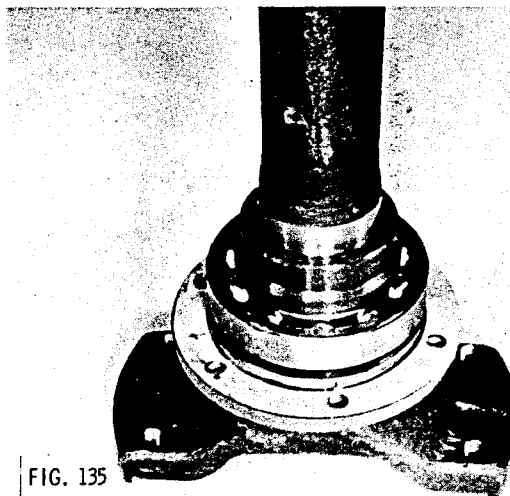

FIG. 135
2. Assemble bearing retainer and seal on shaft. Press bearing in place, firmly against shoulder of shaft. Position shaft, bearing, and retainer in vertical position as shown in Fig. 135. Heat bearing retainer collar with torch or portable heating plate. Heat to 300° F to 600° F, or until collar is blue in color. Collar must be positioned on shaft, firmly seated against inner race of bearing. Use rapid and steady movement when transferring collar from heating plate to axle shaft, using tongs. Speed is necessary to prevent cooling of collar during transfer to prevent collar from seizing on shaft in position that will leave gap between collar and bearing.